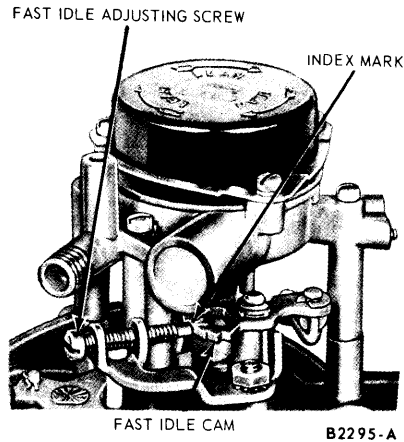

FIG. 12—Engine Fast (Cold Engine) Idle Speed Adjustment
The adjusting screw on the right side of the carburetor (Fig. 12) contacts one edge of the fast idle cam. The cam permits a faster engine idle speed for smoother running when the engine is cold during choke operation. As the choke plate is moved through its range of travel from the closed to the open position, the fast idle cam pick-up lever rotates the fast idle cam. Each position on the
1. Manually rotate the fast idle cam (Fig. 12) until the fast idle adjusting screw rests adjacent to the shoulder of the highest stop (screw aligned with arrow mark) on the cam.